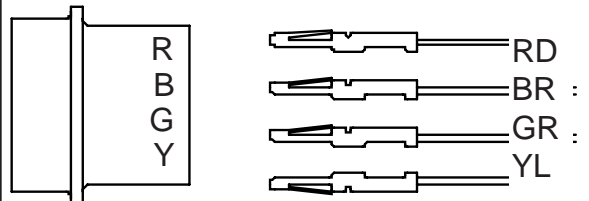
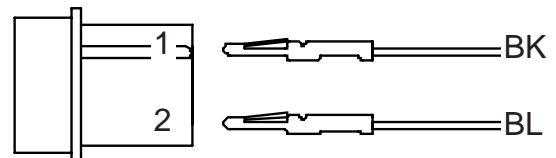

**FIGURE 10**
**FIGURE 11**
1. MARK HOLE AS SHOWN IN **FIGURE 10**. USE THE **LEVER WEDGE** AS AN ANGLE TEMPLATE TO DRILL **9.5MM OR 3/8"** HOLE IN LOWER SHROUD. POSITION THE LOCKWASHERS AS SHOWN IN **FIGURE 11**. START NUT AND POSITION THE LETTERING FOR DRIVER'S BEST VIEW. FULLY SECURE NUT AT **2.5-2.8NM. DO NOT OVERTIGHTEN.**